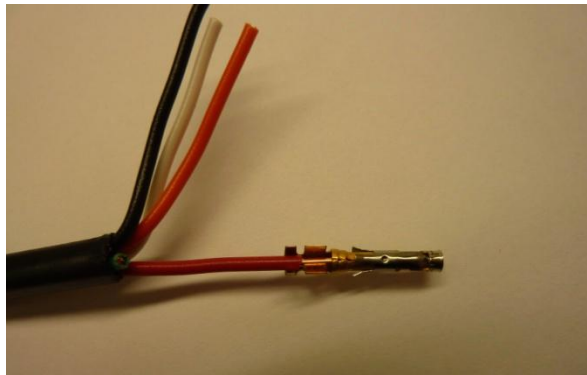

Figure 22: Wire properly inserted into circular socket crimp contact
Step 3: Place stripped wire into circular socket crimp contact such that insulated wire is present at the first crimp location and bare wire is present at the second crimp location (Figure 22).